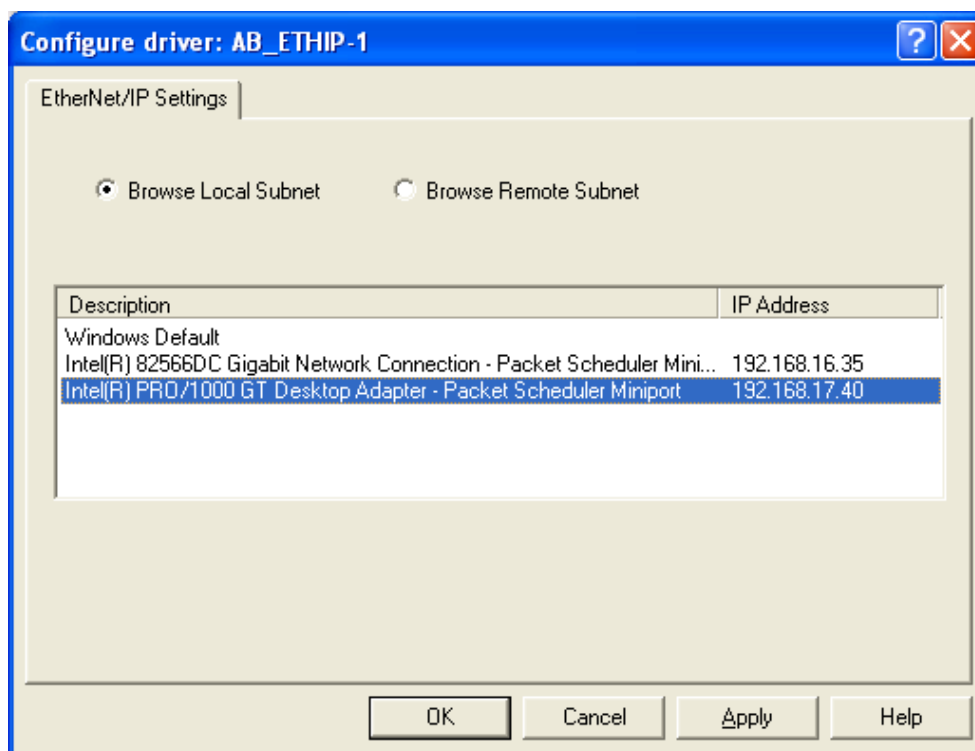

Figure 60: RSLinx Select Browse Local Subnet
- c) Select Browse Local Subnet and select the appropriate network interface (see Figure 60).